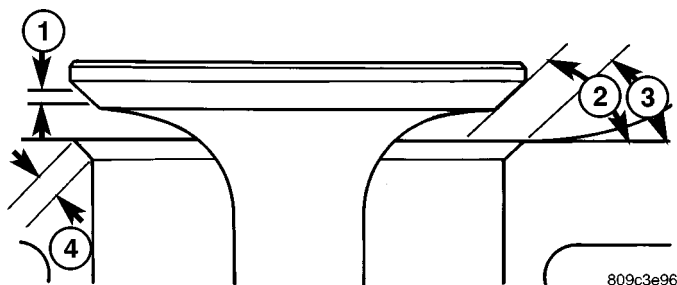

Fig. 45 Valve Face and Seat
(8) When seat is properly positioned the width of intake and exhaust seats should be 0.75–1.25 mm (0.030–0.049 in.) (Fig. 45).